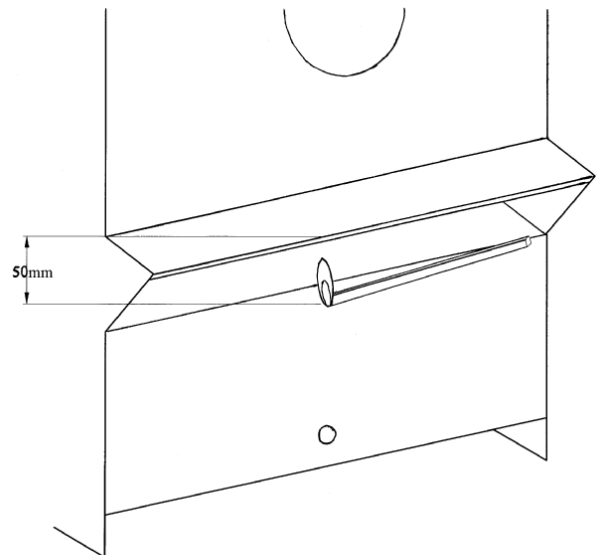

Fig 8
Step 4. Position the smoke match at the back of the fire centrally beneath the draught diverter as shown in **fig 8**.